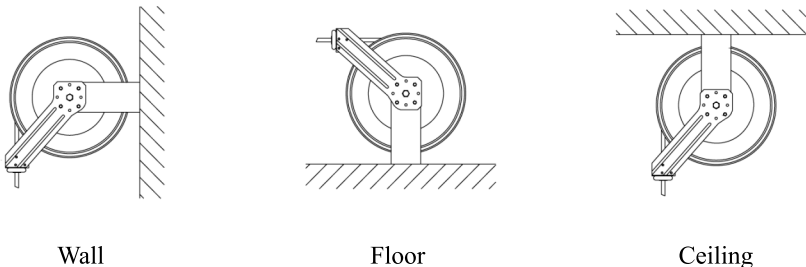

Figure 2.
1. The reel base has four 1/2" (or 12.7mm) drilled holes for mounting on a suitable flat surface. Figure 2 is a template showing the correct location of the 4 mounting holes in the base.
2. The reel is supplied with a hose guide roller bracket. The bracket position may be changed depending on the reel mounting position. Figure 2 shows " Typical Mounting Positions". If bracket position needs to be changed, do the following: